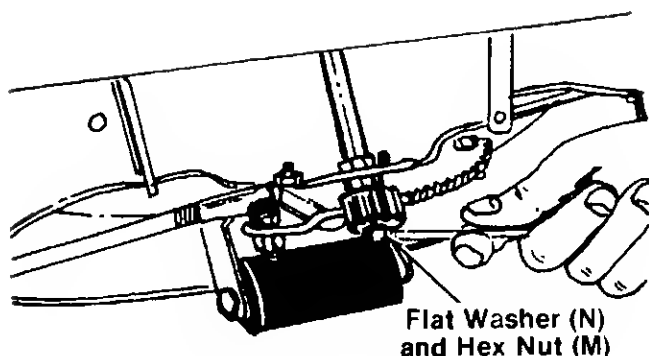

FIGURE 5.
8. Now tighten the hex nut (M) which secures the pinion gear. See figure 5.